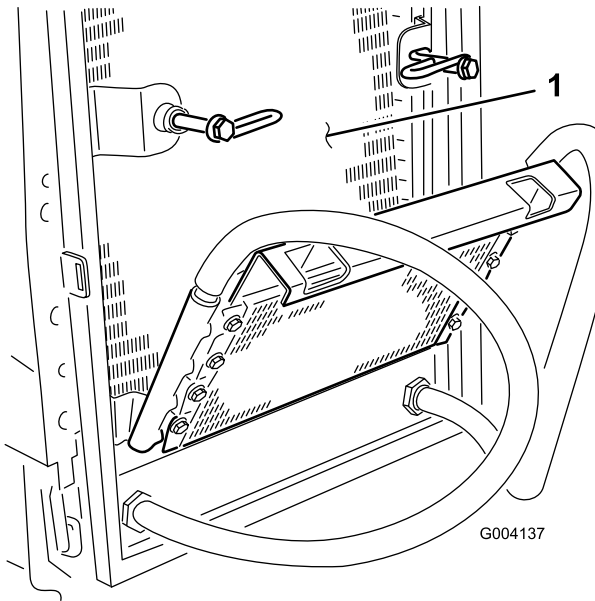

**Figure 52**
6. Thoroughly clean both sides of the oil cooler and the radiator (Figure 52) with compressed air.